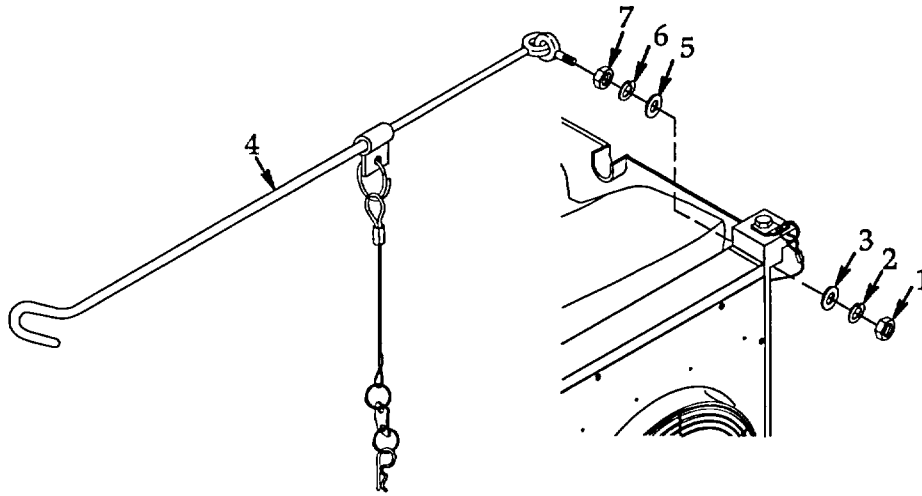

Figure 4-51. Cover Retaining Rod.
a. **Removal.** See figure 4-51.
b. **Installation.** See figure 4-51.
- (1) Install nut (7), new lock washer (6), and flat washer (5) onto cover retaining rod (4). Install cover retaining rod and secure with flat washer (3), new lock washer (2), and nut (1). Place cover retaining rod in storage position and be sure end is in compressor brace slot.
- (2) Install frame cover assembly per paragraph 4.14.
- (3) Connect FDECU to power source and operate per paragraph 2.4.